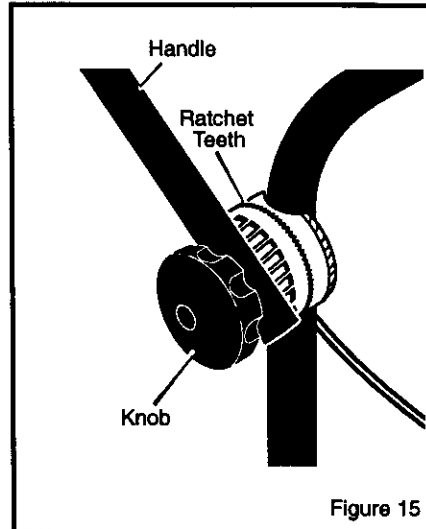

Figure 15
1. Hold the handle with one hand and loosen both knobs until the ratchet teeth are disengaged. Do not remove the knobs. See Figure 15.